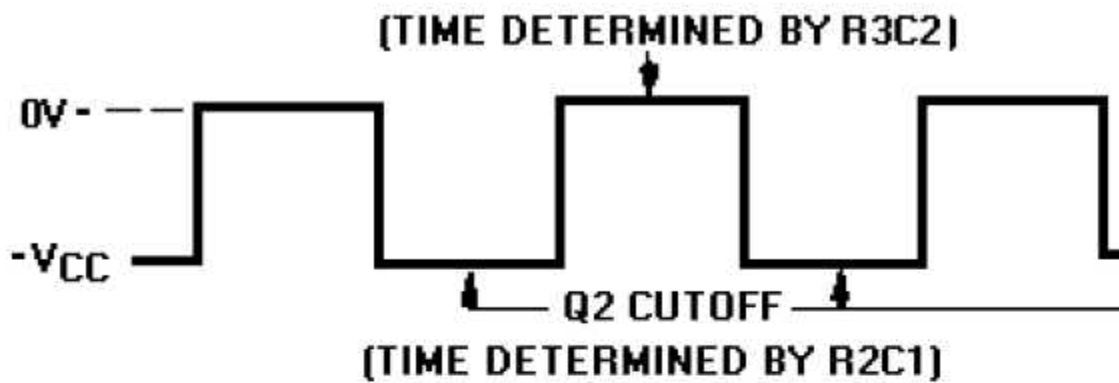

Figure 3-7.—Square wave output from Q2.
- Look at the output waveform from transistor Q2, as shown in figure 3-7. The output voltage (from either output of the multivibrator) alternates from approximately 0 volts to approximately $-VCC$, remaining in each state for a definite period of time. The time may range from a microsecond to as much as a second or two.